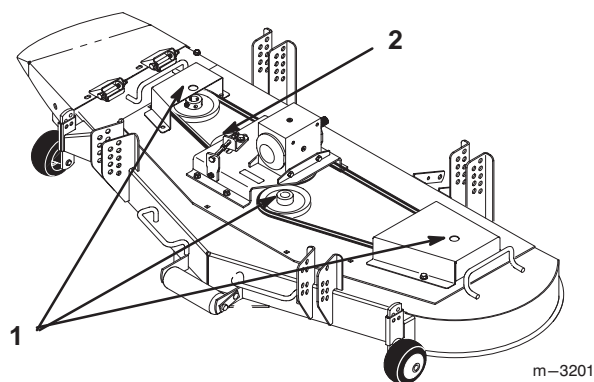

Figure 32
2. Grease the fittings on the three spindle bearings (Fig. 32).